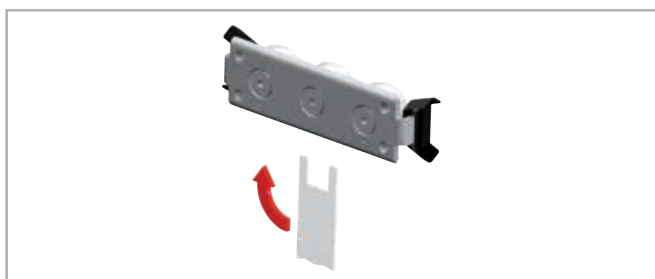

Fig. 54
- (1) Wipe the raceways of any dirt and debris.
- (2) If necessary, remove existing wipers and insert the sliders into the rails. Slightly loosen the fixing screw of the center roller pin.
- (3) Position the slider(s) at the ends of the rail.
- (4) For the U rails there must be a thin support (e.g. set key) under the ends of the slider body to ensure the horizontal alignment of the slider in the flat raceways.
- (5) The included special flat key is inserted from the side between the rail and the slider and inserted onto the hexagonal or square shaft of the eccentric pin to be adjusted (see fig. 54).
- (6) By turning the flat key clockwise, the eccentric roller is pressed against the upper raceway, thereby removing clearance and setting the correct preload. During this process, absence of play is desired; avoid setting a preload that is so high that it generates high friction and reduces service life.
- (7) Hold the roller with the adjustment key in the desired position and carefully tighten the fixing screw. The exact tightening torque will be checked later.
- (8) Move the slider in the rail and check the preload over the entire length of the rail. It should move easily and the slider should not have play at any location of the rail.
- (9) Tighten the fixing screw with the specified tightening torque (see tab. 46), while holding the flat key and maintaining the angle position of the roller so as to not change the preload while tightening the screw. It is recommended to use thread locking compound.
- (10) Now re-attach the existing wipers if desired.